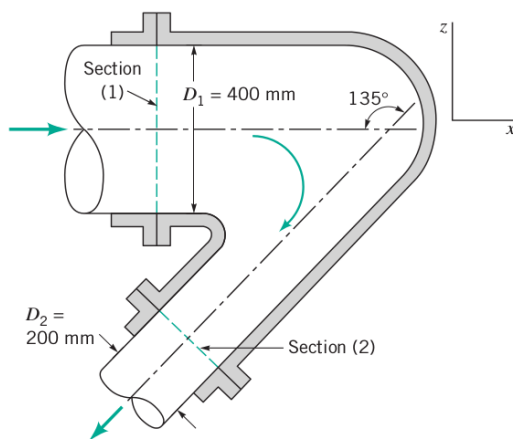

Figure 1. Question 2.
2. A converging elbow turns water through an angle of 135° in a vertical plane (see Fig. 1). The flow cross section diameter is 400 mm at the elbow inlet, section (1), and 200 mm at the elbow outlet, section (2). The elbow flow passage volume is 0.2 m^3 between sections (1) and (2). The water volume flowrate is $0.40 \text{ m}^3/\text{s}$ and the elbow inlet and outlet pressures are 150 kPa and 90 kPa. The elbow mass is 12 kg. Calculate the horizontal (x-direction) and vertical (z-direction) anchoring forces required to hold the elbow in place.